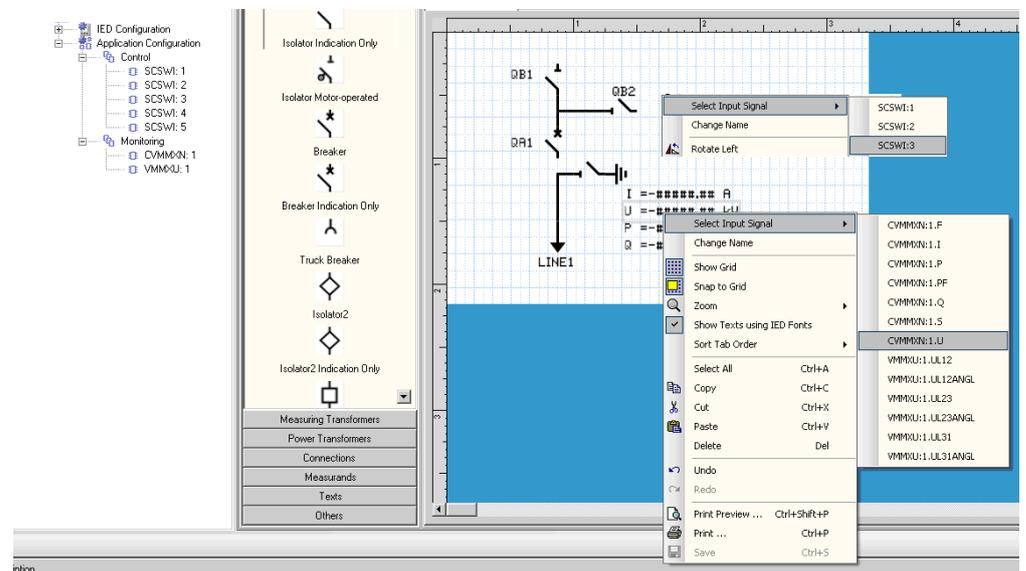

Figure 49: GDE: Establish a dynamic object link
8. Select each object that has a dynamic link and do the link to the corresponding process object, see Figure 49.